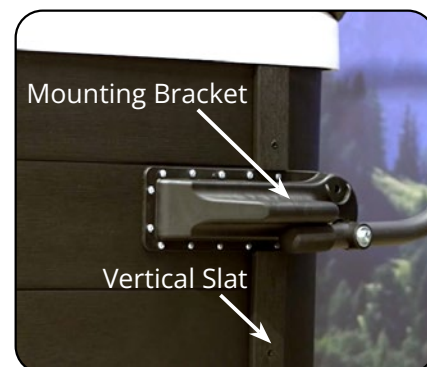

Figure 1c
For the cover lifter to be installed on an Alpine model, two of the spa pool's vertical slats must be removed and altered (cut) as they sit in the way of the mounting brackets (H) - see 'Figure 1c' for finished install example.
Each vertical slat should be cut into two separate pieces to fit back onto the cabinet panel and sit flush around the mounting bracket for a tidy appearance as per 'Figure 1c'.